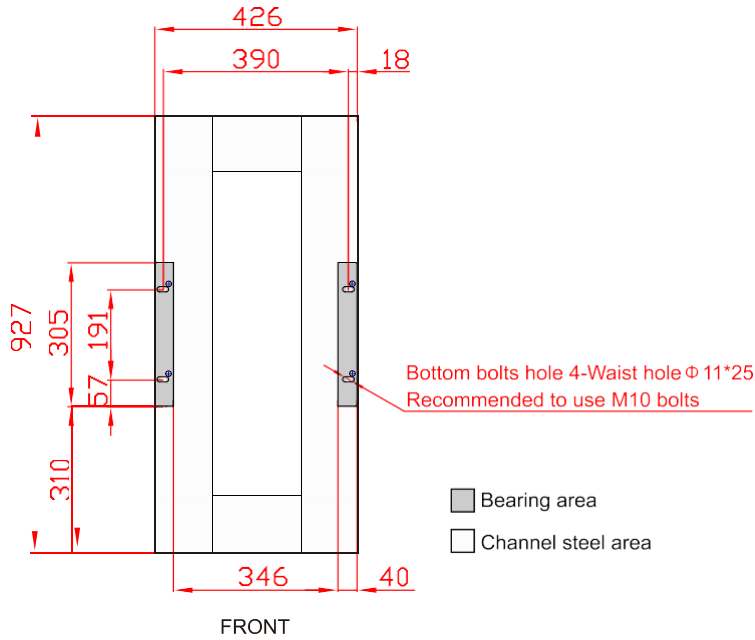

Figure3-11 Recommended installation size for channel steel (unit: mm)
- If channel steel is used for installation, drill four installation holes $\phi 14\text{mm}$ on the channel steel directly according to the drilling size shown in Figure3-11, and then install it directly according to **Step 4**.